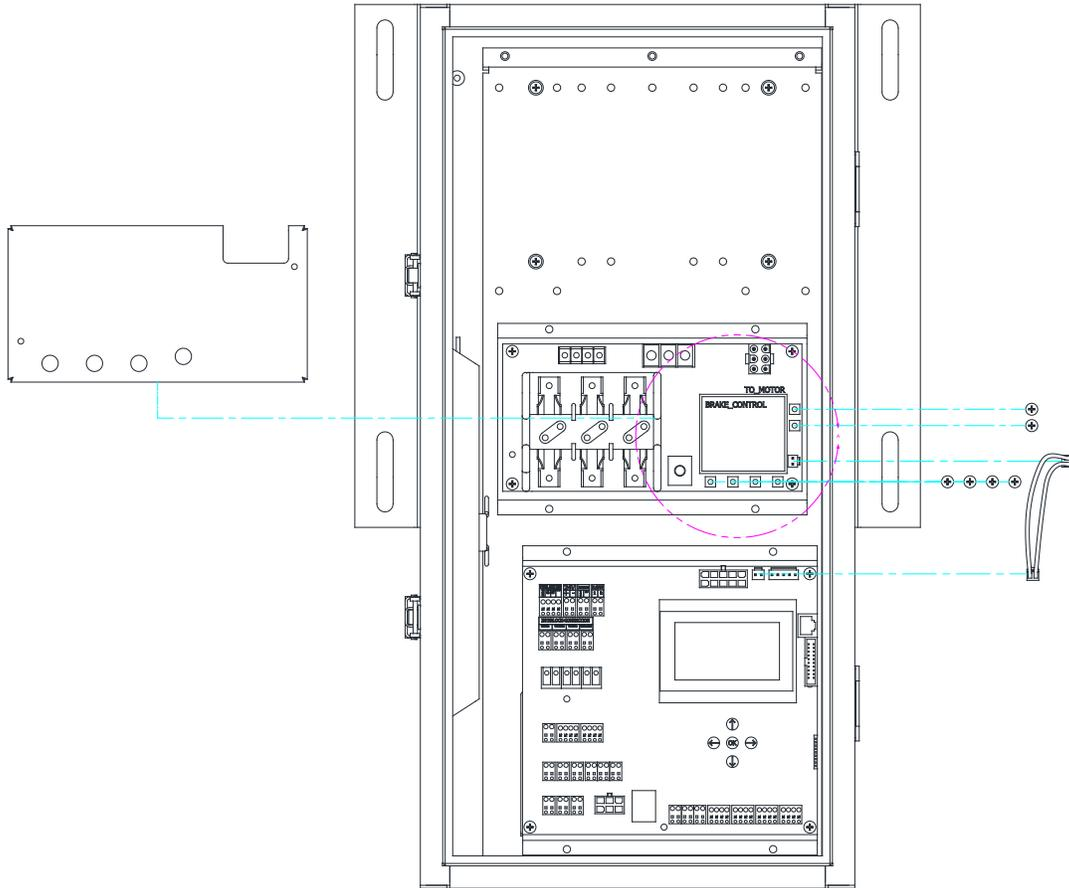
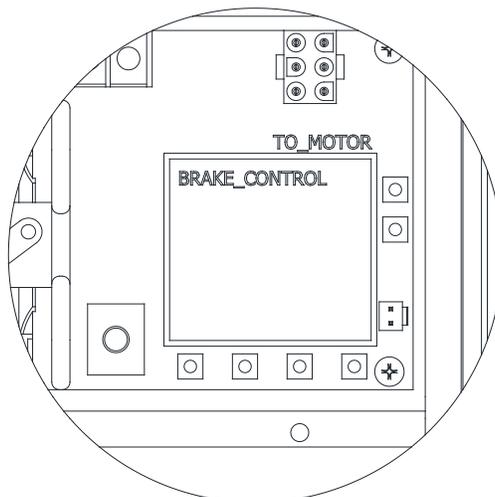

Figure 2
Figure 3
5. Remove the plastic cover over the power board, the cable connecting the BRAKE\_CONTROL to the APEX controller, and the 6 screws. See **Figure 2** and **Figure 3**